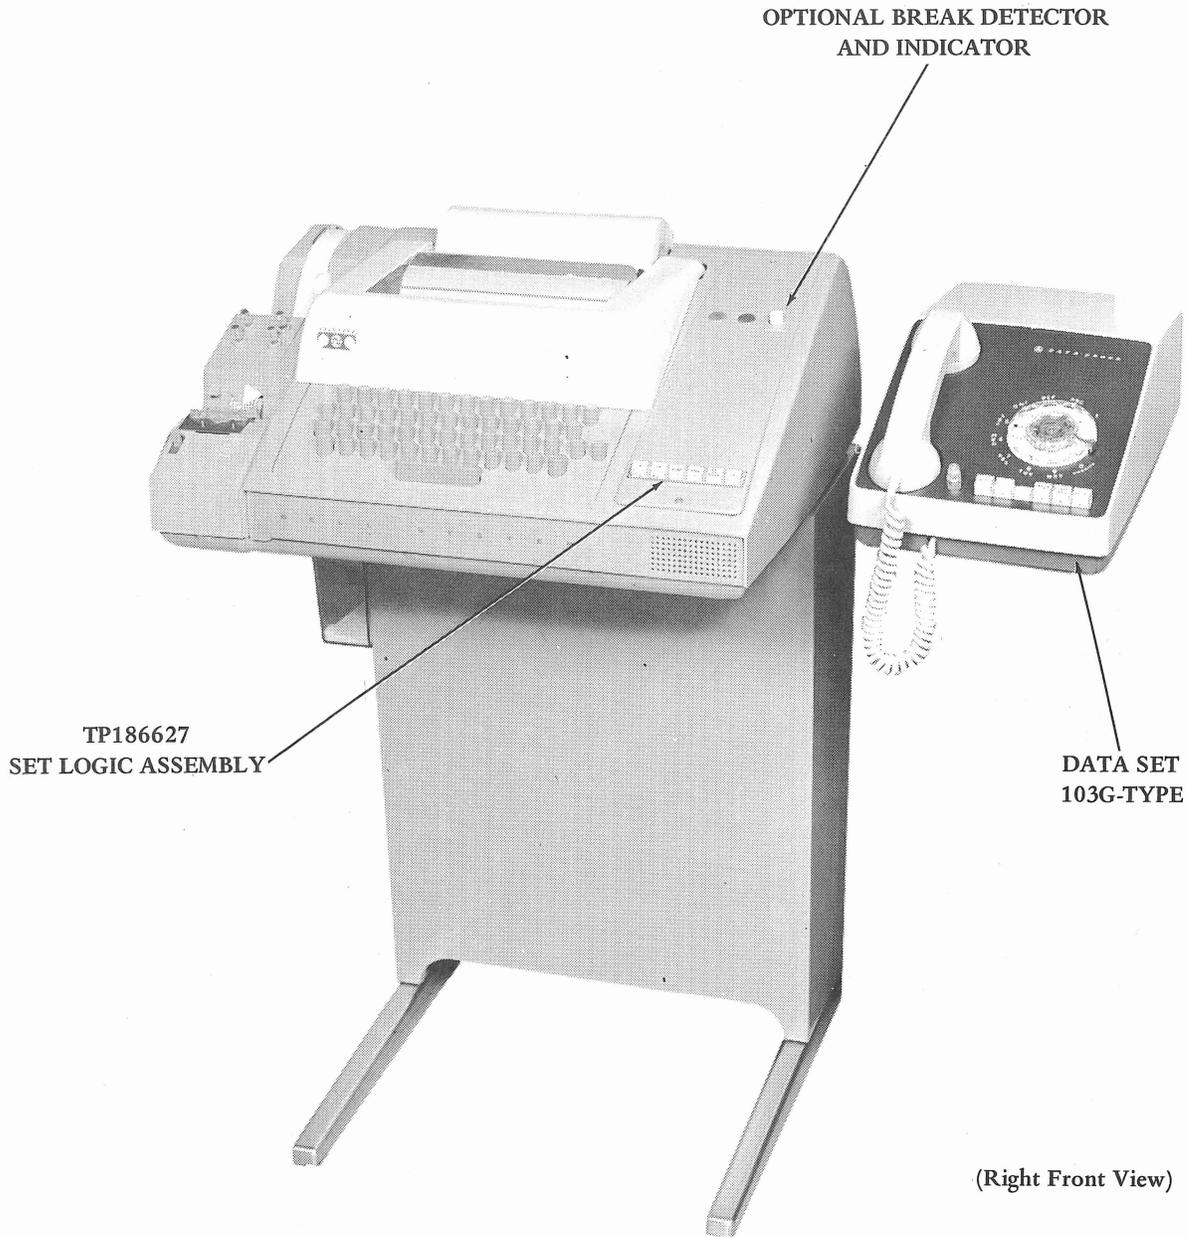
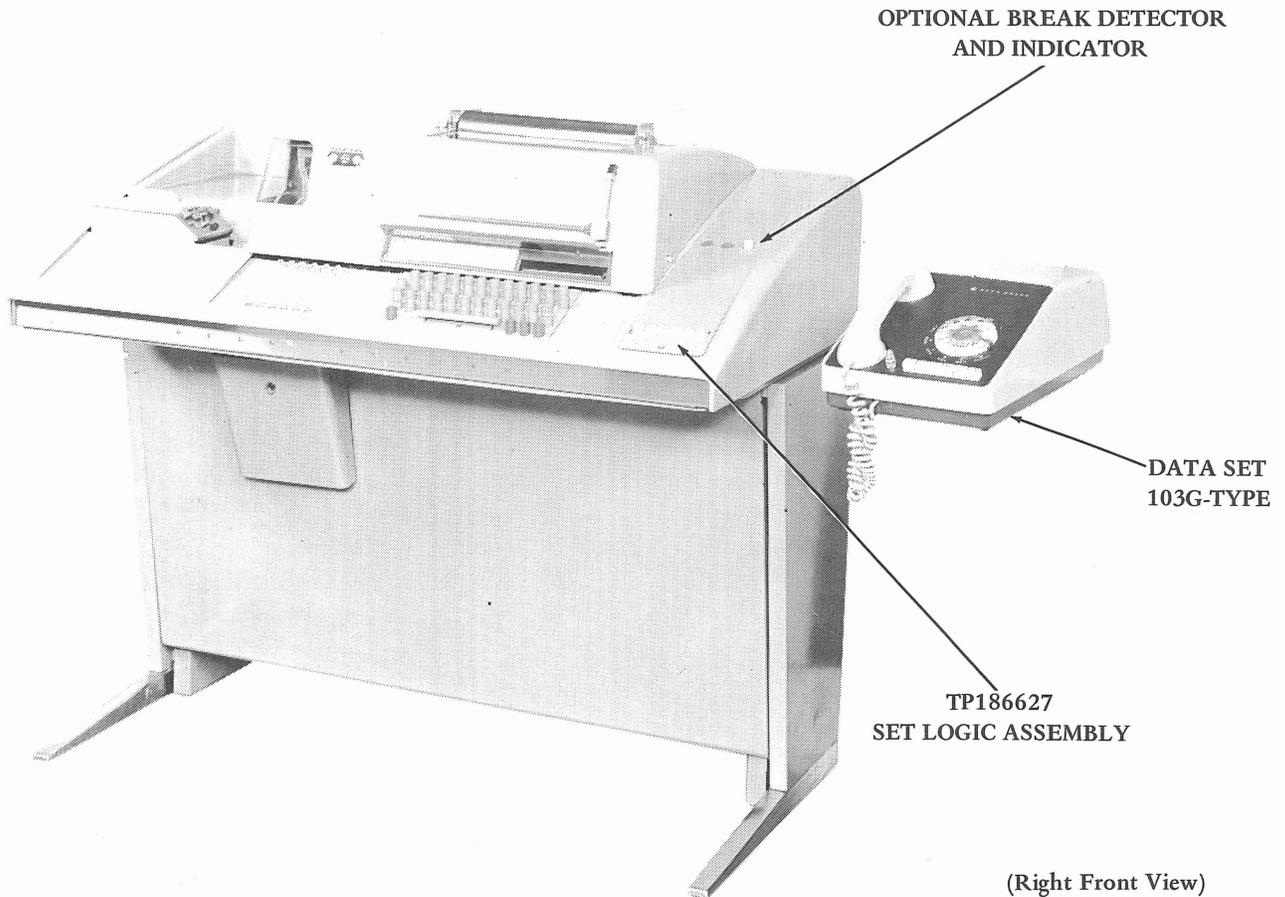

Figure 1 - 33 ASR Station With Data Set 103G-Type
Figure 2 - 35 ASR Station With Data Set 103G-Type
103G-type is shown in Figure 1. The 35 ASR station with data set 103G-type is shown in Figure 2..
3.08 Stations with data set 103G-type may be optionally equipped with a TP186630 modification kit consisting of a break detector circuit card and indicating lamp with reset switch. The 33 station shown in Figure 1 is equipped with the break detector option. Receipt of a break signal will cause the automatic tape reader to stop and the break lamp to light requiring a pushbutton reset. It will also